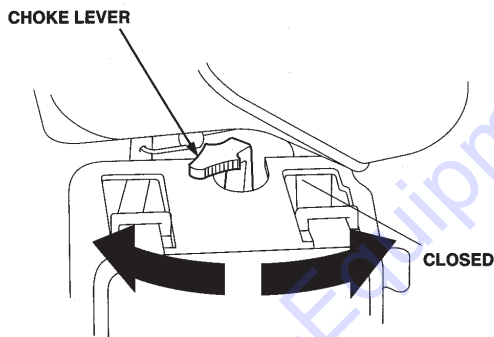

Figure 10. Engine Choke Lever (Closed)
2. Place the **choke lever** (Figure 10) in the "CLOSED" position if starting a **cold** engine.